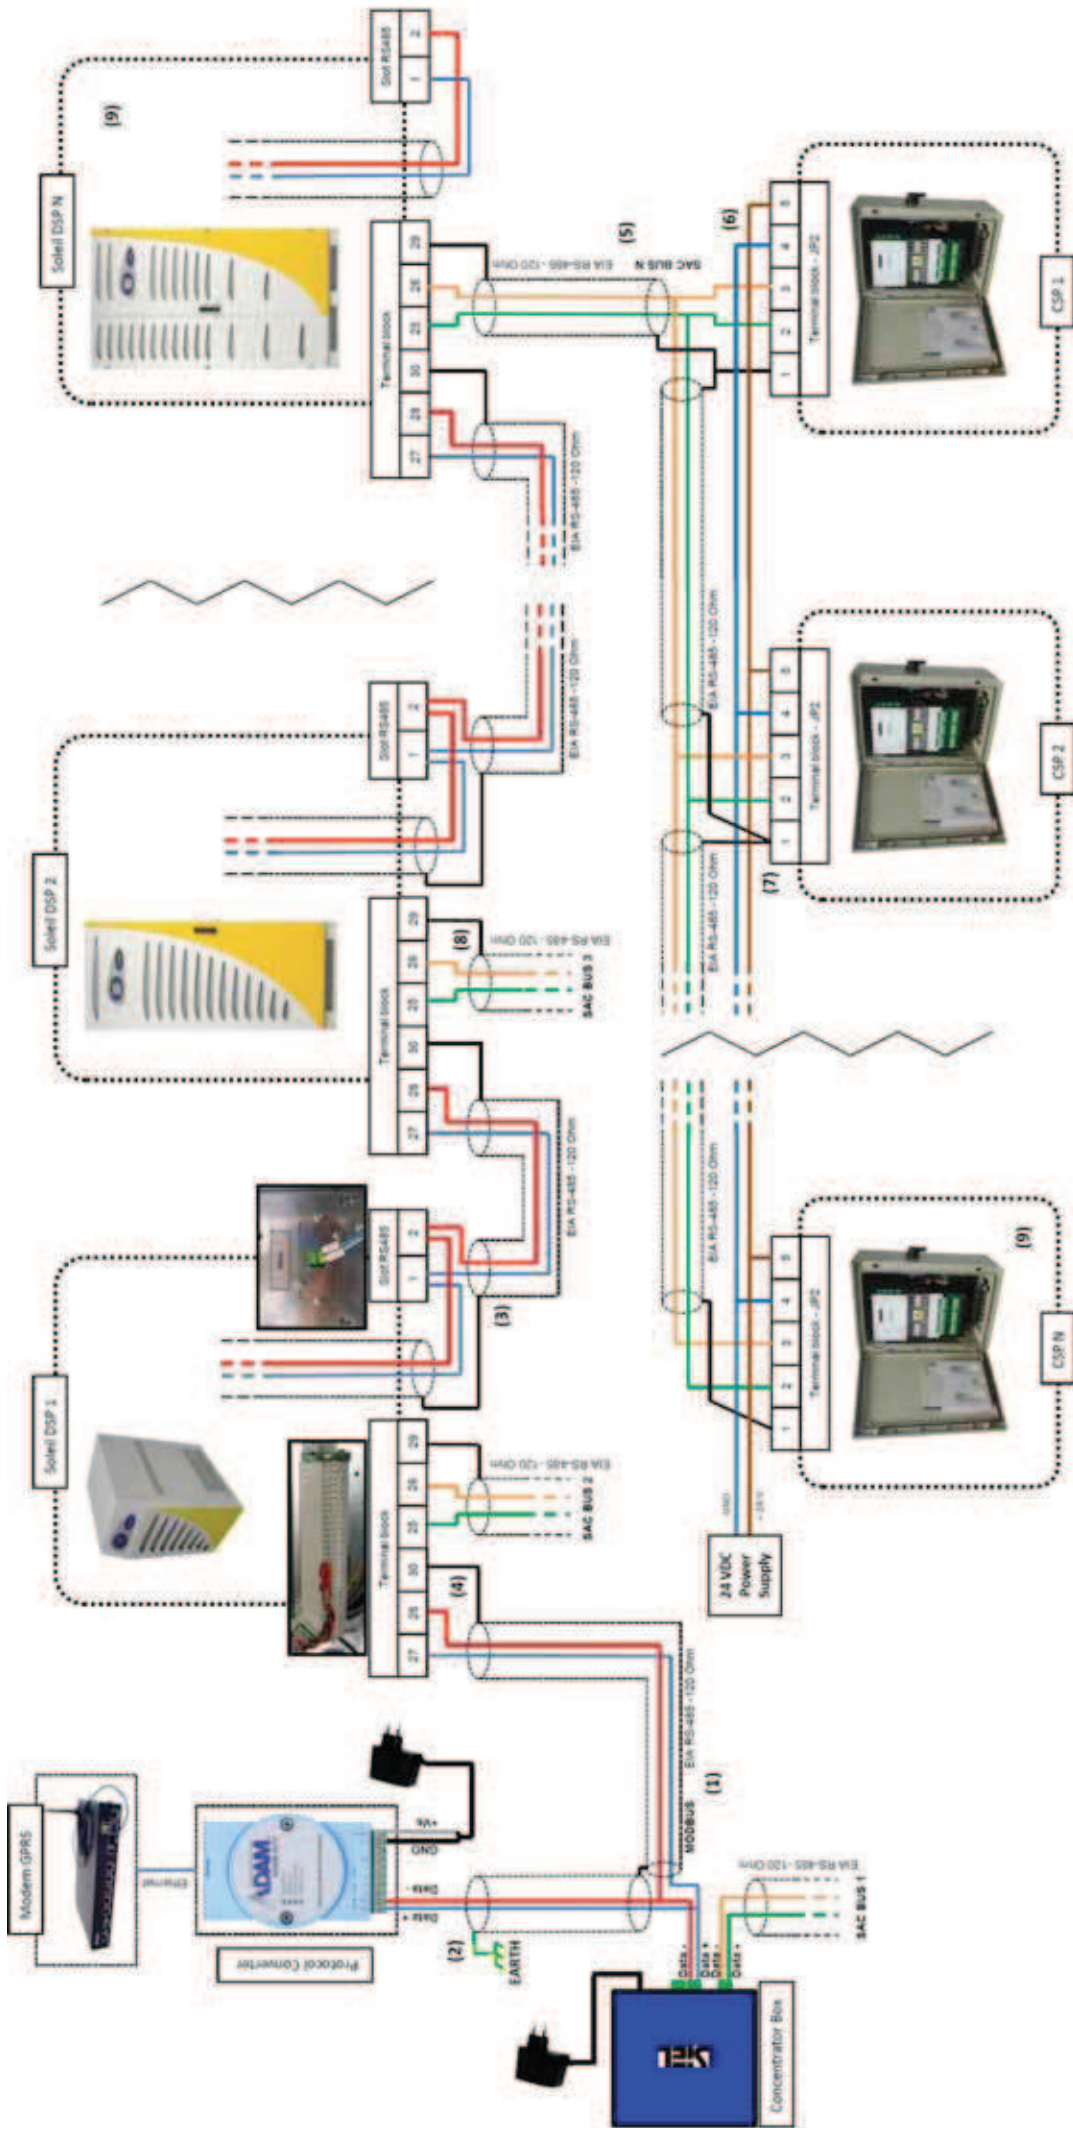
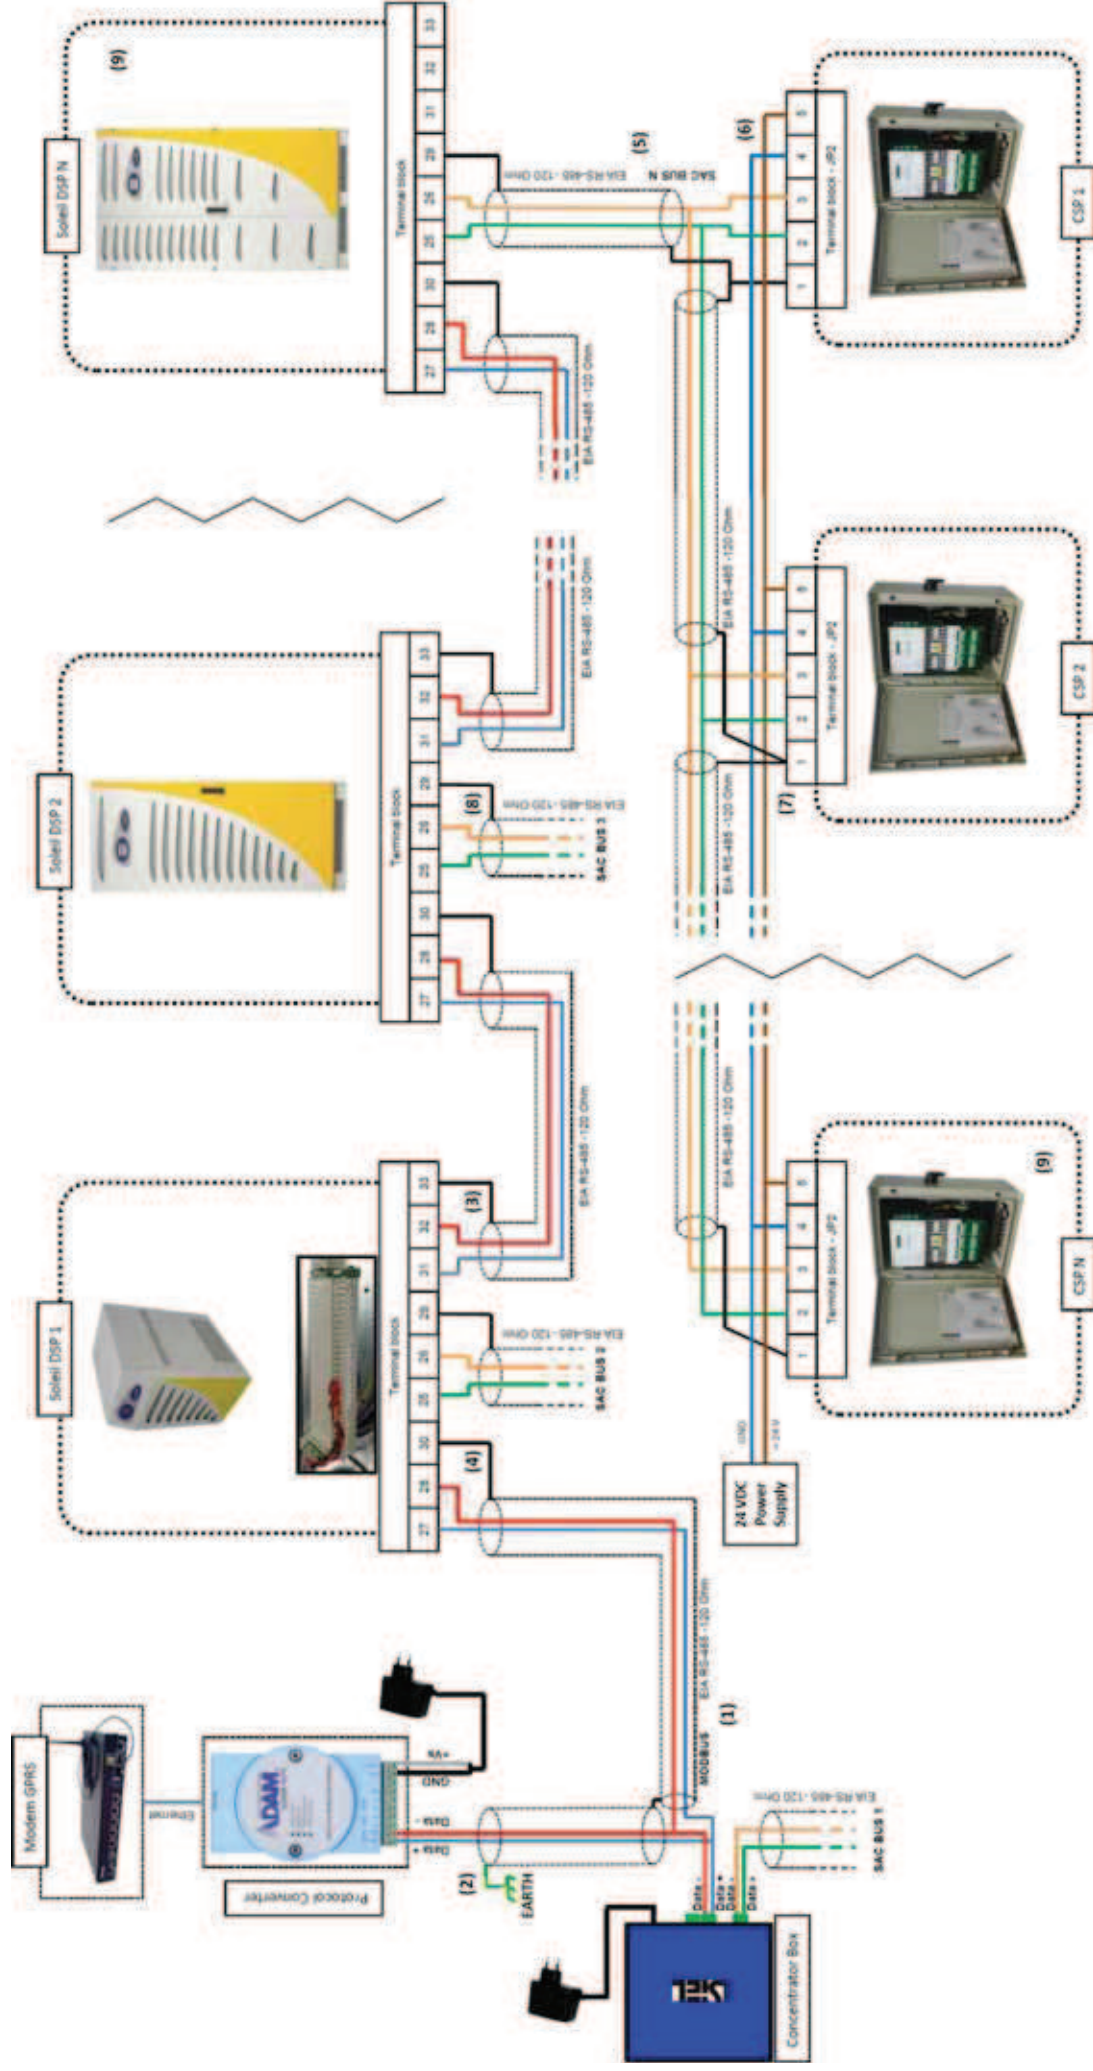
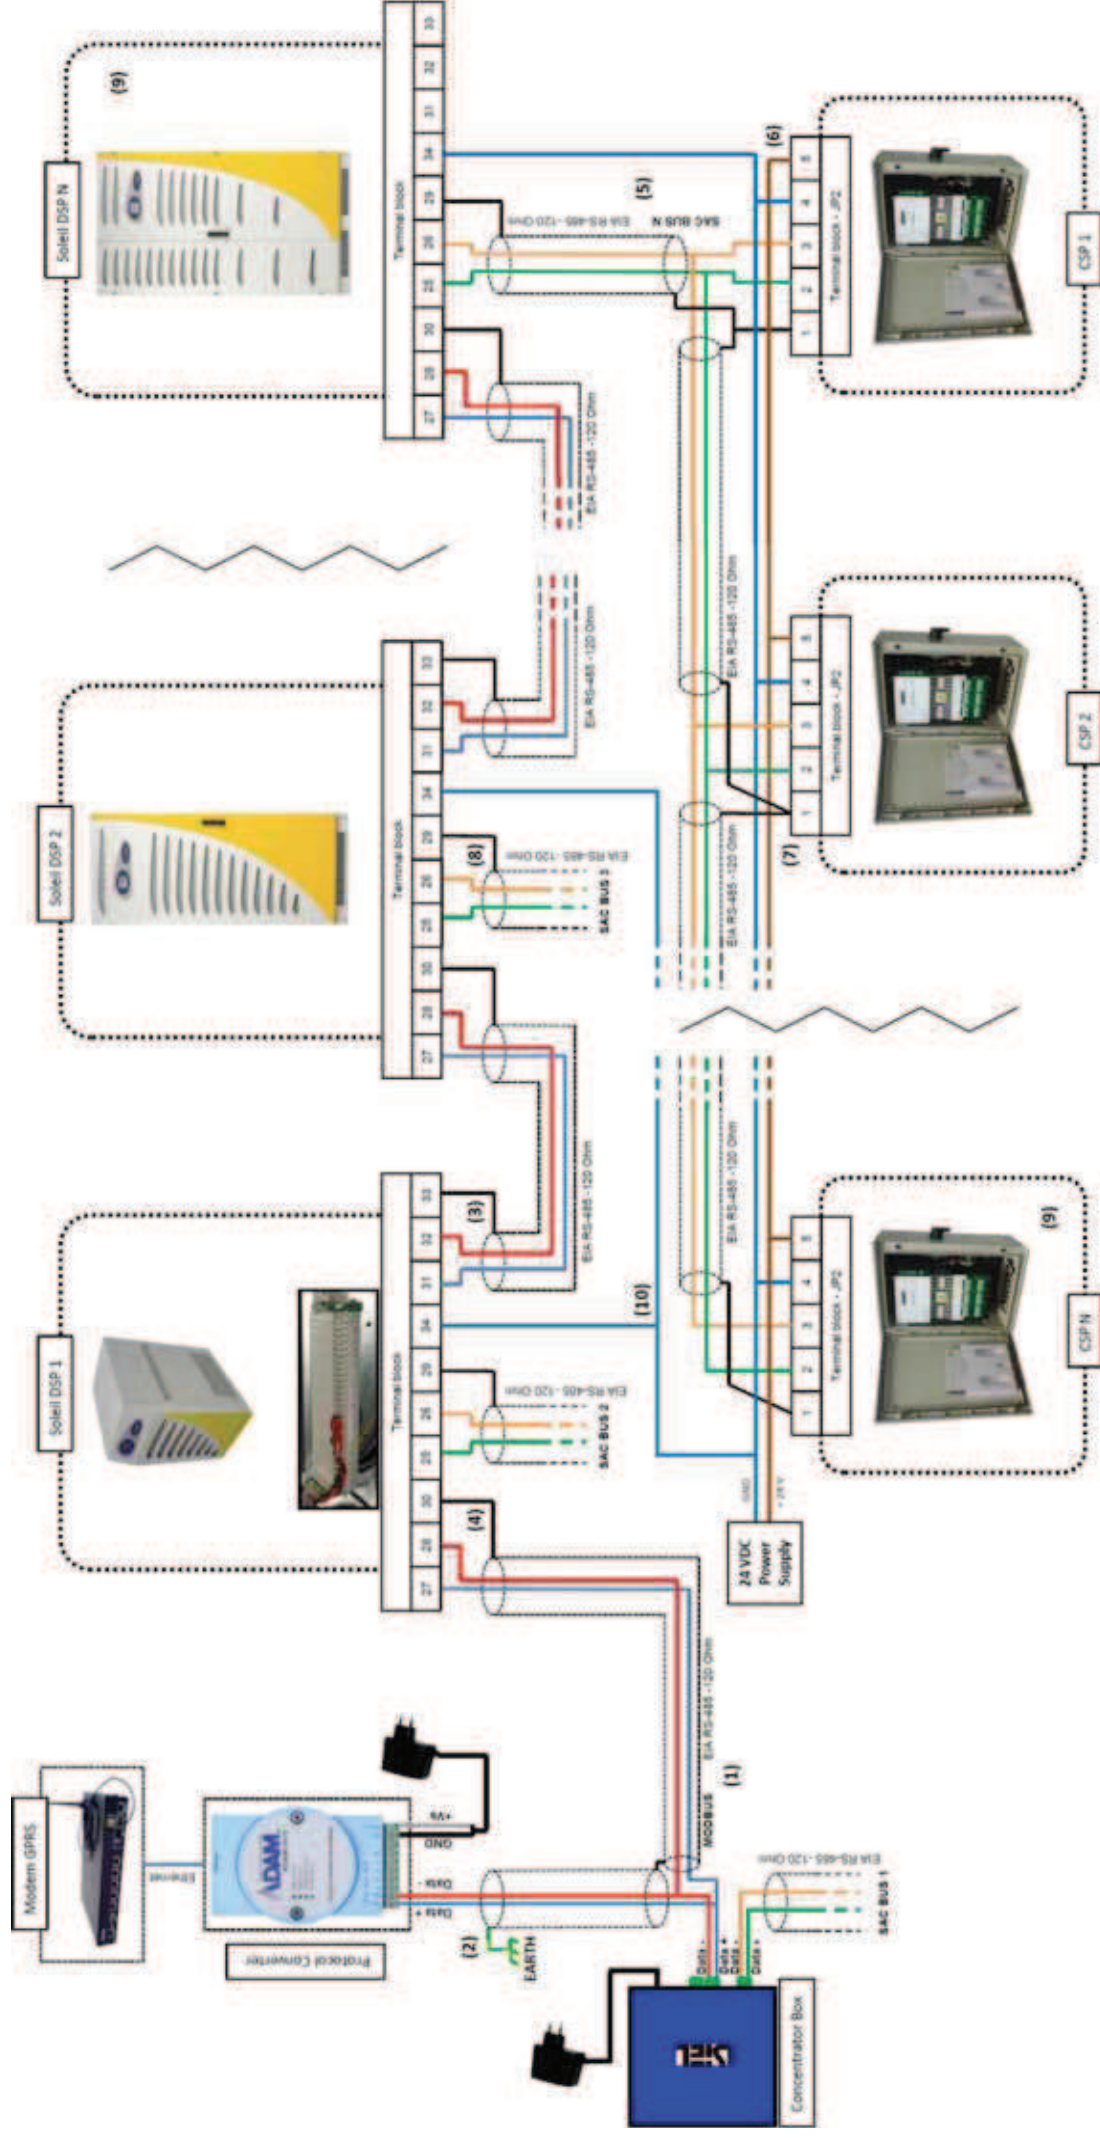

Figure 10 Communications wiring layout with 30 terminal Soleil DSP inverters
Figure 11 Communications wiring layout with 33 terminal Soleil DSP inverters
Figure 12 Communications wiring layout with 34 terminal Soleil DSP inverters
In addition, it is essential to bear in mind the following notes in reference to Figure 10, Figure 11, Figure 12 Communications wiring layout with 34 terminal Soleil DSP inverters
(1) For the MODBUS connection, use a screened, twisted pair EIA-RS485 cable with typical impedance of 120 Ohm (e.g. Belden P/N 9841). The maximum length of the chain should not exceed 1,200 m.
(2) Connect the cable screening to the “earthing” at the protocol converter terminal.
(3) With reference to the outline in Figure 10:
With reference to the outlines in Figure 11 and Figure 12: connect the screening of the MODBUS output cable to terminal 33 of the inverter.